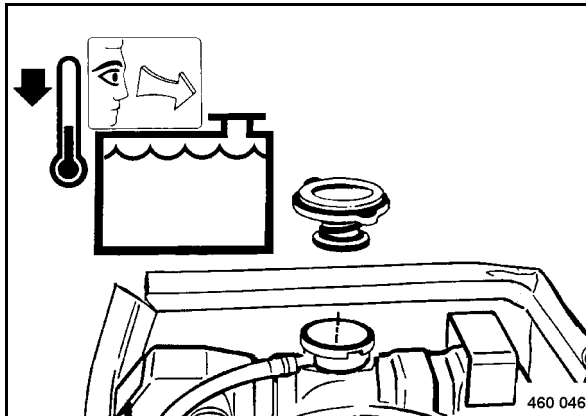

Fig. 128
- Fill in coolant until the level reaches the bottom edge of the filler socket (Fig. 128).